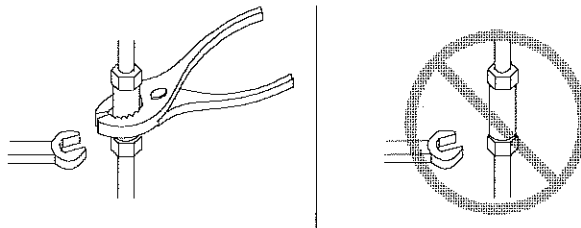

Fig. 10
- (1) When tighten the lock nut, the connector must be secured with plier or spanner to avoid inside electrodes loosen. (See Fig. 10)